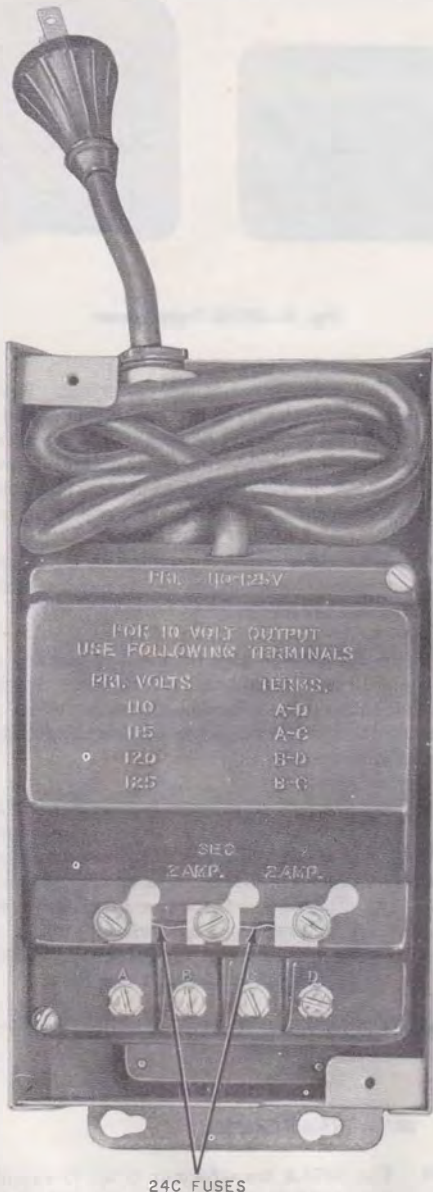

Fig. 1—393B Transformer, Cover Removed
2.01 The 393B transformer (Fig. 1) is used primarily as a power supply for 10-volt lamps in 1A, 1A1, and 1A2 key telephone systems. It is furnished in a metal box with a removable cover. The box is approximately 8-3/4 inches long, 4-1/4 inches high, and 4 inches deep.
the nonmetallic sides of the fuses are together on the center post (Fig. 1).